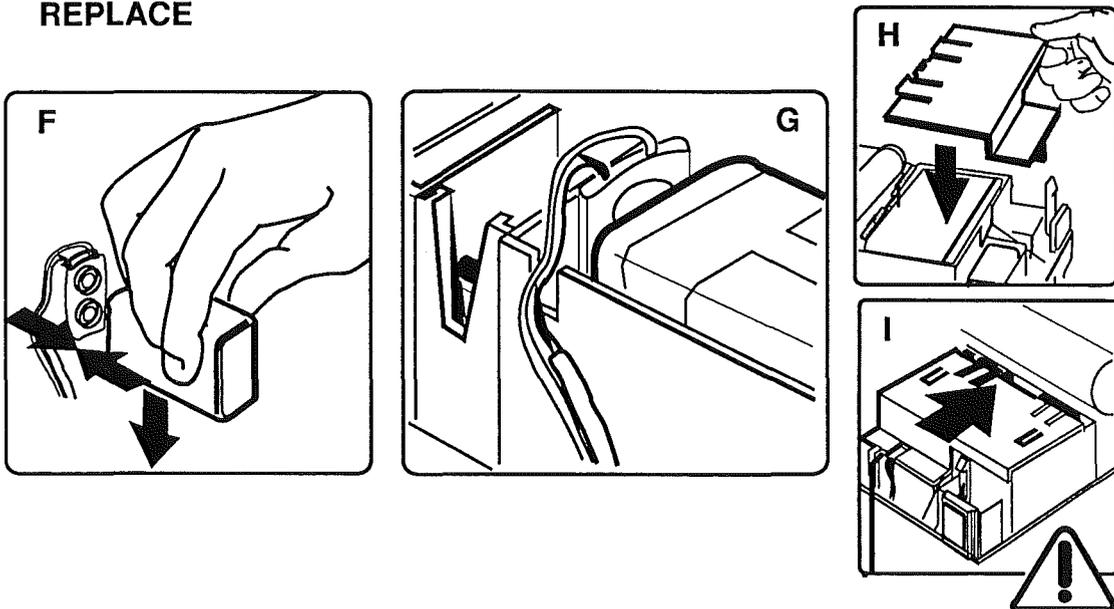

FIGURE 4
2. **Figure 4-A.** Press down on the two plastic tabs at the front of the battery cover and slide the battery cover toward the rear of the computer.
3. **Figure 4-B.** Lift the battery cover off.
4. **Figure 4-C.** Locate the backup battery. **Figure 4-D.** Use the tip of the jeweler's screwdriver to lift the edge of the backup battery far enough to grab the battery with your fingers and remove the battery from its compartment.
5. **Figure 4-E.** Disconnect the battery cable from the battery.
1. **Figure 4-F.** Connect the battery cable to the battery.
2. **Figure 4-G.** Place the battery into the battery compartment. The battery cable should be at the left side of the compartment.
Note: Figure 4-G. Make sure the backup battery wires are well seated in the slot in the battery compartment and are not being pinched when the battery cover is on.
3. **Figure 4-H and 4-I.** Place the battery cover on the battery compartment and slide it evenly toward the front of the computer until it snaps in place.